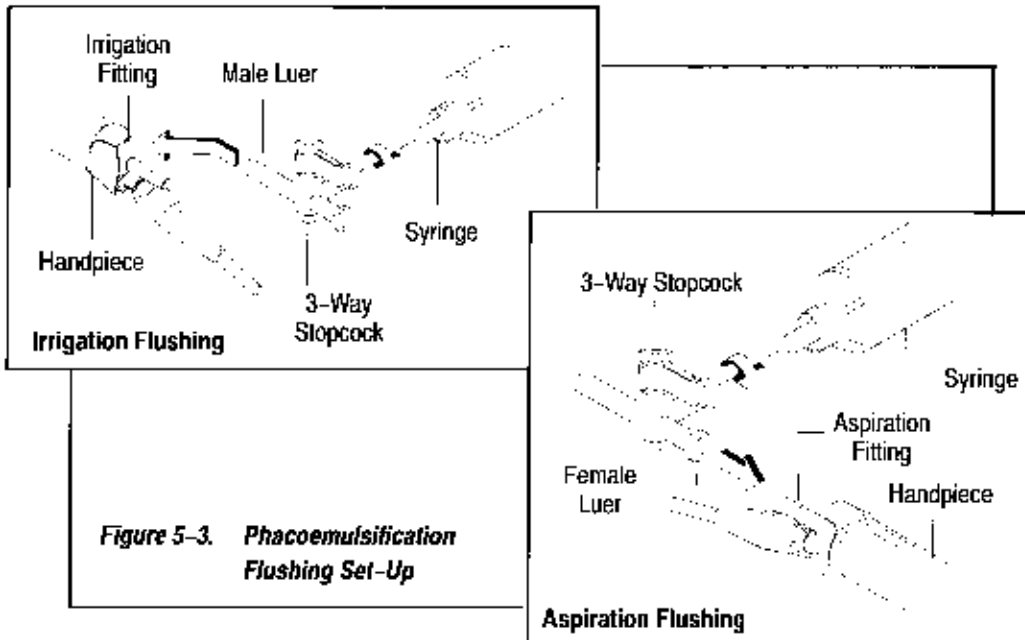

Figure 5-3. Phacoemulsification Flushing Set-Up
- C. Flush the irrigation lumen as follows (see figure 5-3):
- D. Flush the aspiration lumen as follows (see figure 5-3):